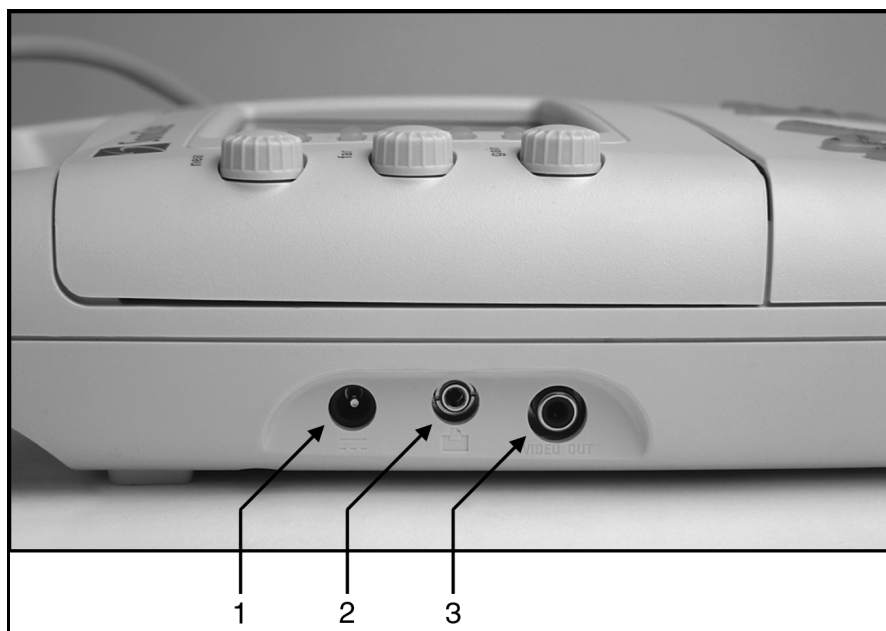

Figure 4.2 System Connections
3. Connect the AC power supply to the system AC line voltage receptacle on the upper left side of the system (Figure 4.2).